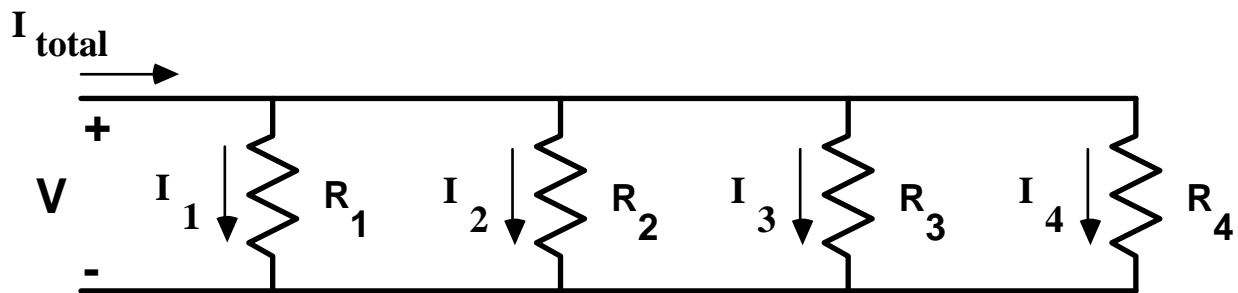

Figure 5.2
For Figure 5.2 this yields:
(1) Consider the parallel resistor circuit of Figure 5.2. Use the following nominal resistor values: $R_1 = R_2 = 1k\Omega$, $R_3 = 2.2k\Omega$, and $R_4 = 330\Omega$. Measure the individual resistor values using the multimeter, then construct and measure the effective resistance of the parallel circuit.